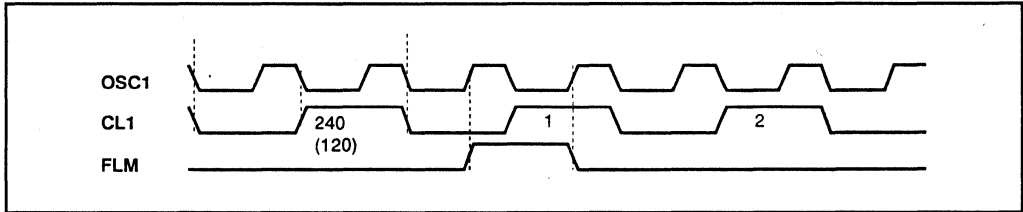

Figure 5 LCD Timing Signals
4. Figure 5 shows the external clock specifications.